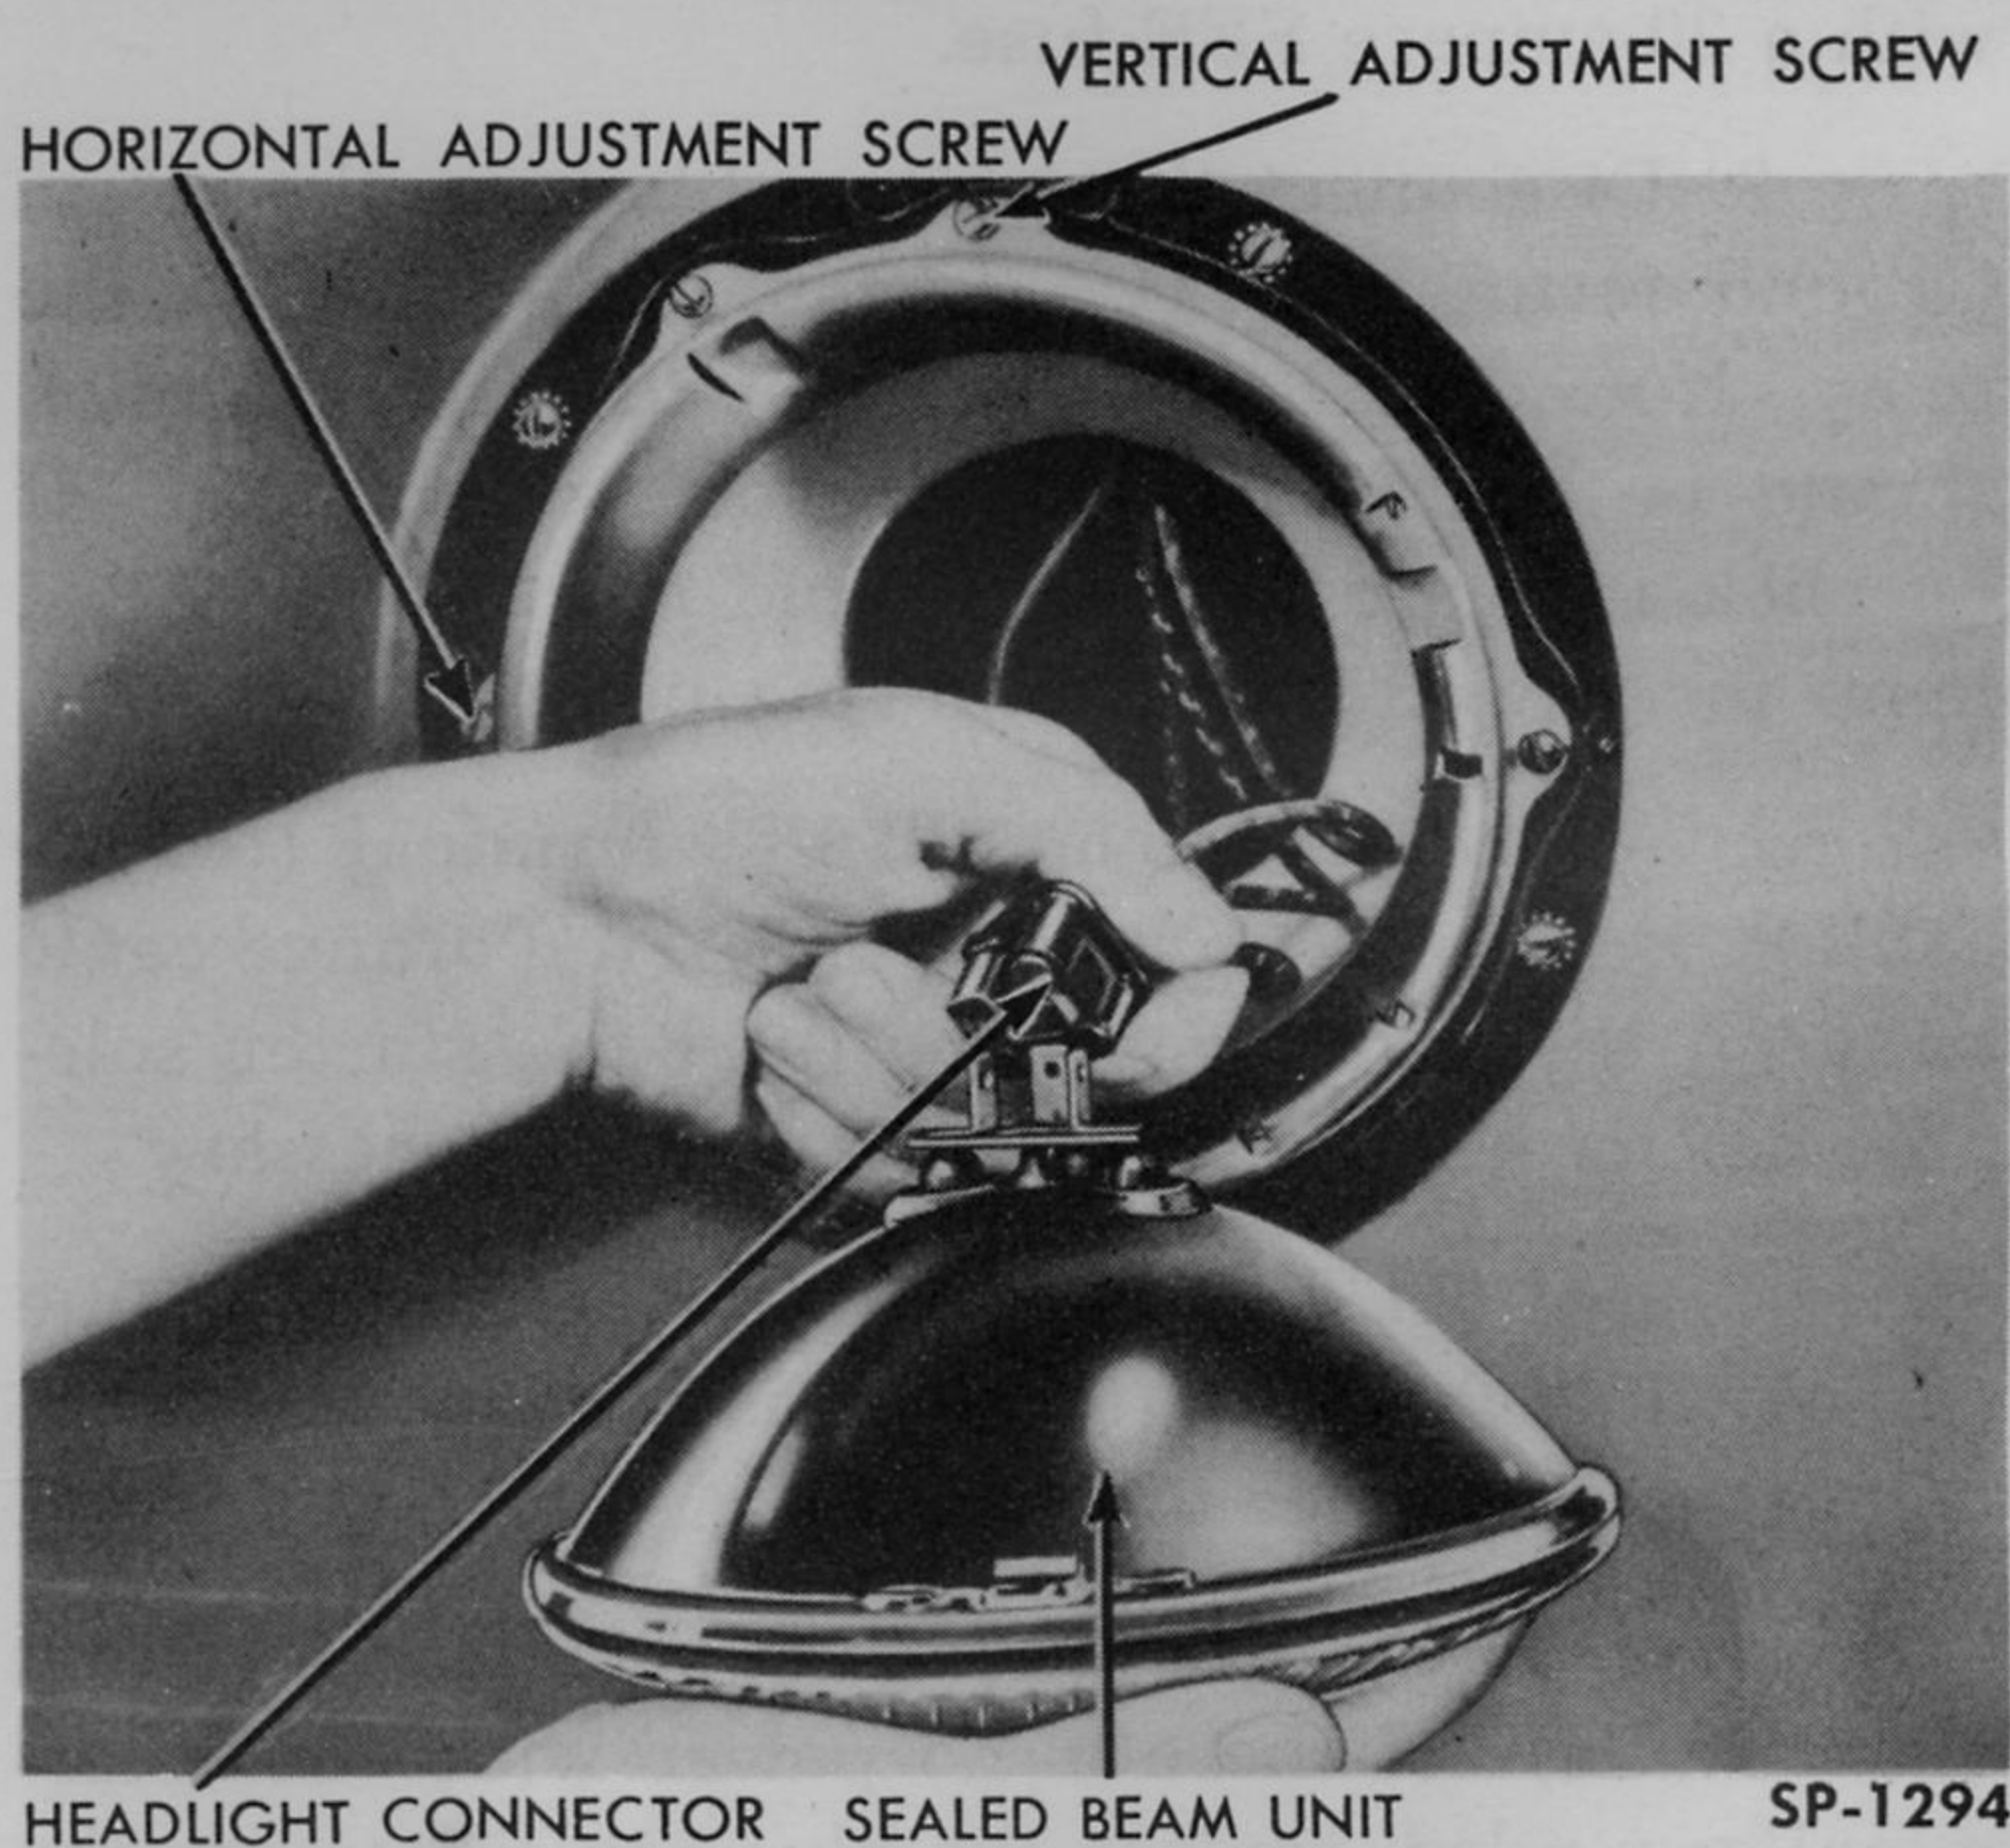
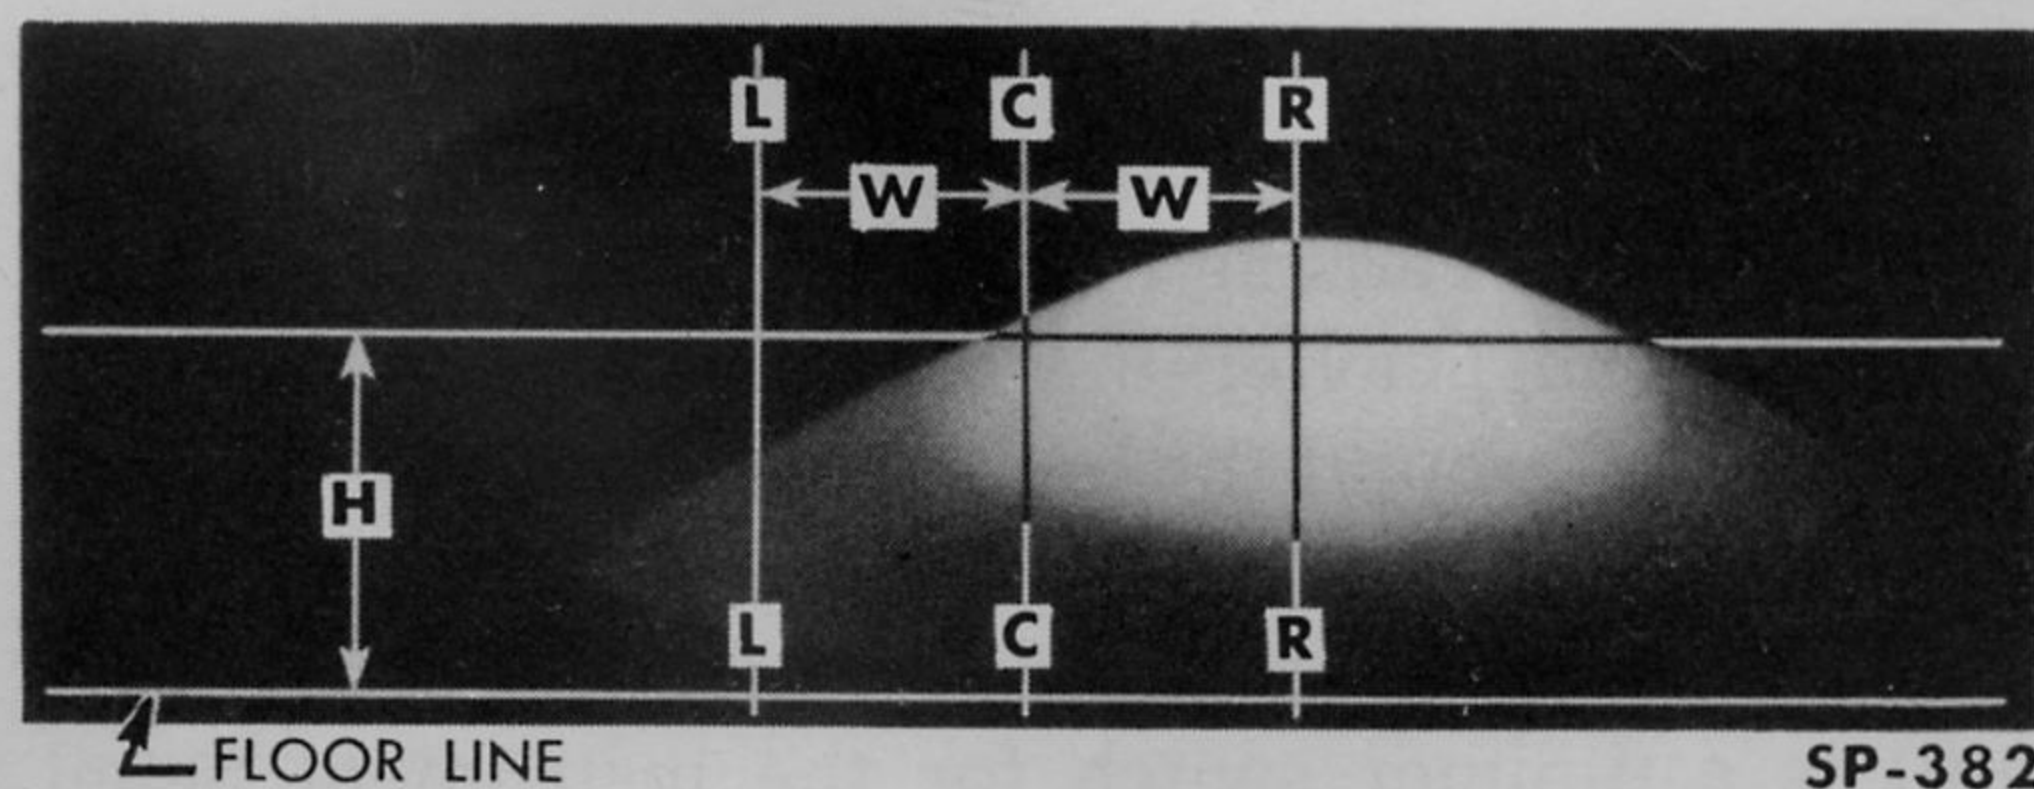

Fig. 436—Replacing Frazer Headlight Sealed Beam Unit
Fig. 437—Pattern of Properly Aimed Headlight
ment burns out the glass unit is replaced (Fig. 436).
1. Headlight Sealed-Beam Unit Replacement. If a simple, quick test of the feed circuits indicates need of seal-beam unit replacement (or likelihood of circuit trouble at the unit connector or the lamp ground) remove the lens door (outer rim) screw and the door. Then loosen the retainer ring retaining screws and turn and remove the retaining ring. Lift out the sealed-beam unit (Fig. 436), and pull off the connector.
(b) Measure the height of the centers of the headlights from the floor. On the vertical surface of the door or wall draw a horizontal line located by measuring a height from the floor (H, Fig. 437) which is three inches less than the height of
(c) Remove the retaining screw and the lamp door (forward ring). Turn the headlights on to the driving or upper beam. Cover the left headlight and aim the right one by turning the upper adjusting screw (Fig. 436) to tilt the beam up or down and the side screw to swing the beam to right or left. Adjust to obtain the relation between the light beam pattern and the lines on the wall as shown in Fig. 437. Then cover the right headlight and aim the left one, centering the beam pattern on the left vertical line (LL, Fig. 437).